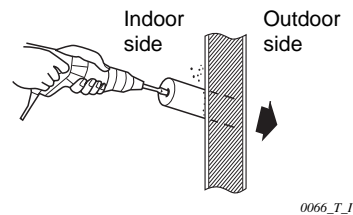

Fig. 3-66
- (8) If the tubing and wiring are to go towards the rear of the unit, make holes in the wall. (Fig. 3-66)